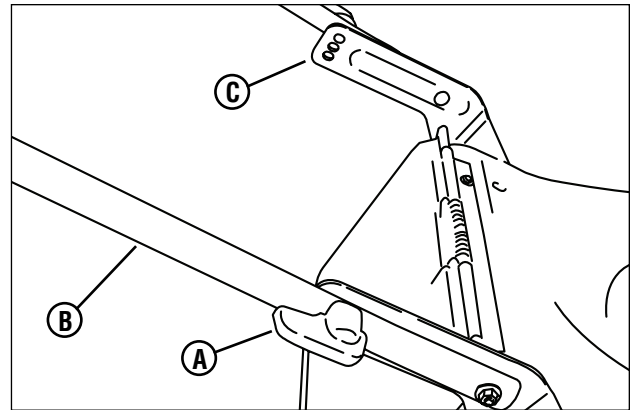

Figure 4: Adjusting the handle height
1. Turn the knobs **(A, Figure 4)** on either side of the lower handle **(B)** to retract the locking pins. Align the lower handle with the desired set of holes in the handle brackets **(C)**. Turn the knobs to release the locking pins and secure the lower handle.